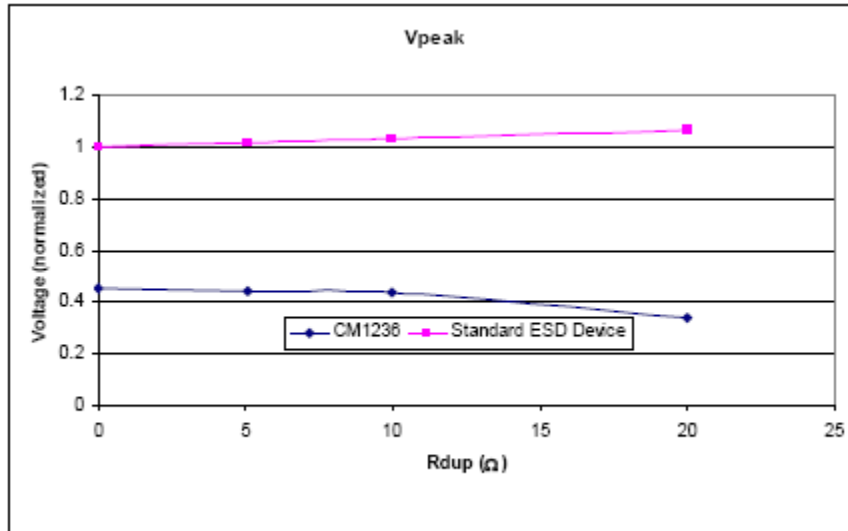
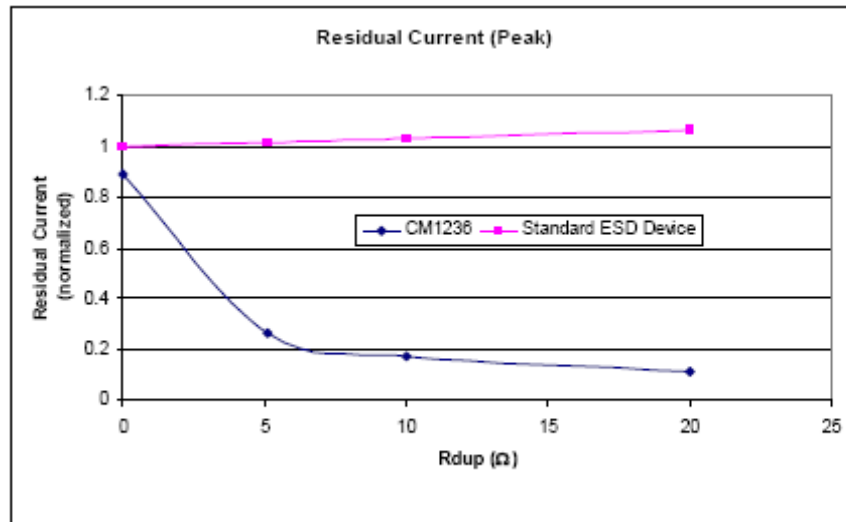
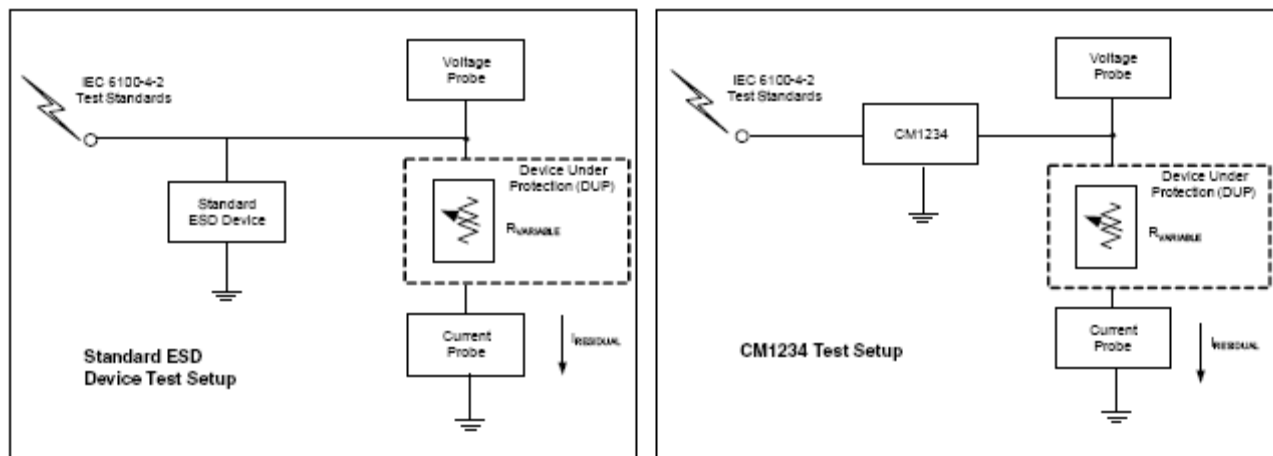

Figure 4. V_{CLAMP} vs. RDUP* (ASIC) – 8kV Contract Strike
Figure 5. $I_{RESIDUAL}$ vs RDUP* (ASIC) – 8kV Contract Strike
Figure 6. Test Setups: Standard Device (Left) and CM1235 (Right)
Figure 4 shows that the CM1236 (*PicoGuard XS* ESD protector) lowers the peak voltage and clamping voltage by 45% across a wide range of loading conditions in comparison to a standard ESD protection device. Figure 5 also indicates that the DUP/ASIC protected by the CM1236 dissipates less energy than a standard ESD protection device. This data was derived using the test setups shown in Figure 6.
* RDUP is the emulated Dynamic Resistance (load) of the Device Under Protection (DUP). See Figure 6.